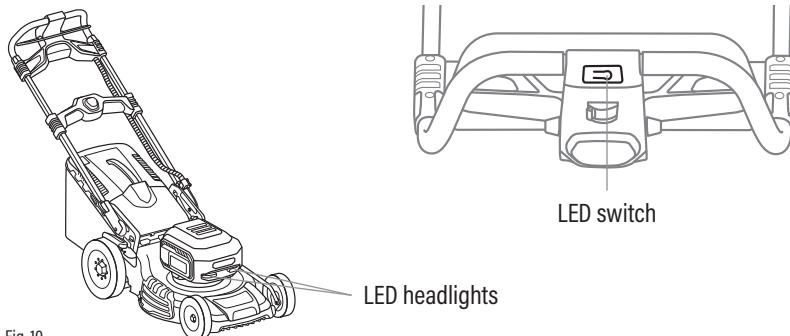

Fig. 10
- Press the headlight button to turn on the lights (Fig. 10).